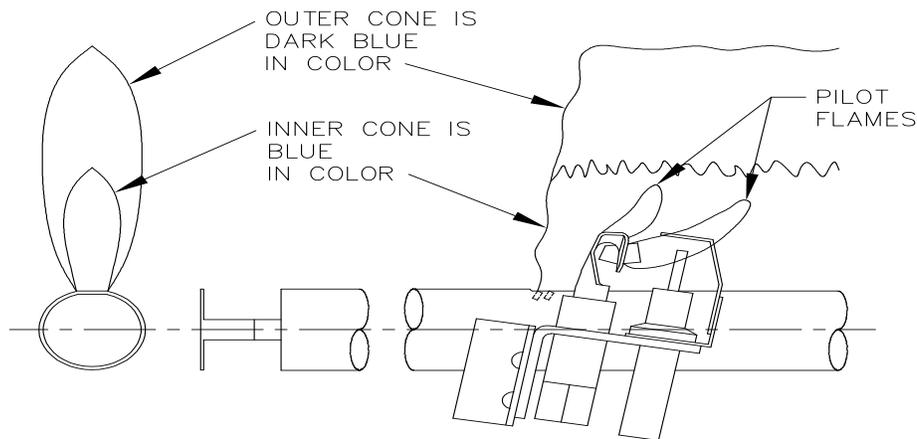

Figure 5: Pilot and Main Burner and Flames
5. Check pilot flame. See Figure 5. The pilot flame should be medium blue covering approximately $\frac{3}{8}$ " to $\frac{1}{2}$ " (10 to 12 mm) of the sensing probe. If the flame is yellow and lazy, follow instructions TO TURN OFF GAS TO APPLIANCE (see Figure 4), and contact qualified service agency.
6. Check main burner flames. See Figure 5. The flames should have clearly defined inner cones approximately $1\frac{1}{2}$ " (40 mm) high and should have a very sharp blue color characteristic. If the flame is yellow and lazy, follow instructions TO TURN OFF GAS TO APPLIANCE (see Figure 4), and contact qualified service agency.